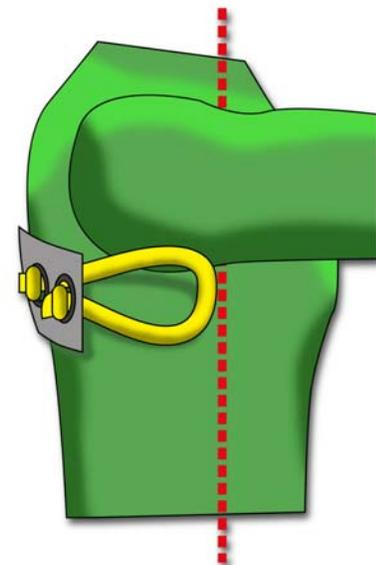

Fig. 16
**Note:** Each person's required bungee length is different depending on his or her chest size. A good rule of thumb is to start with the bungee length just forward of your armpit. If the cylinder valve and first stage regulator still protrude too far forward, shorten the bungee. (Fig. 16)